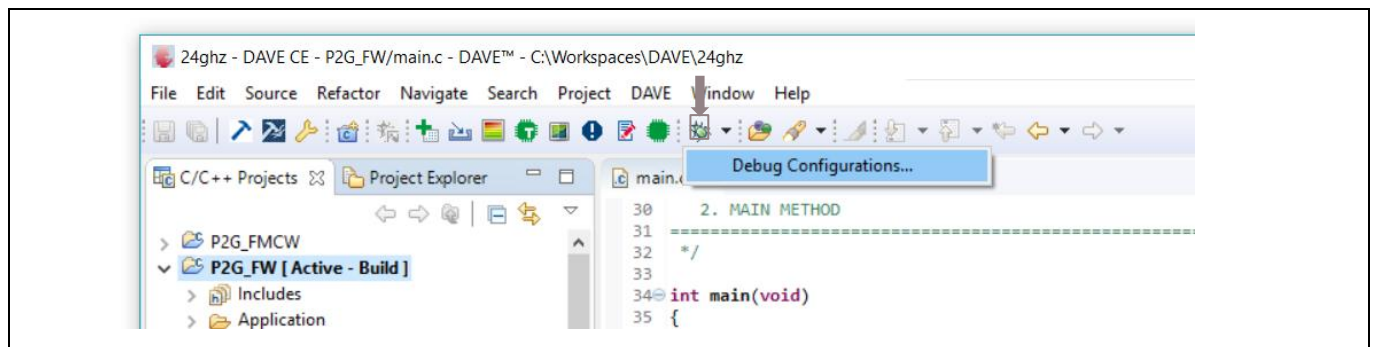

Figure 31 Start debug session toolbar button
- Set debug configurations by clicking on the drop-down menu of the **Debug** toolbar button (bug icon) and selecting **Debug Configurations...** as shown in Figure 31. Alternatively, press key F11 to directly start the debug session.